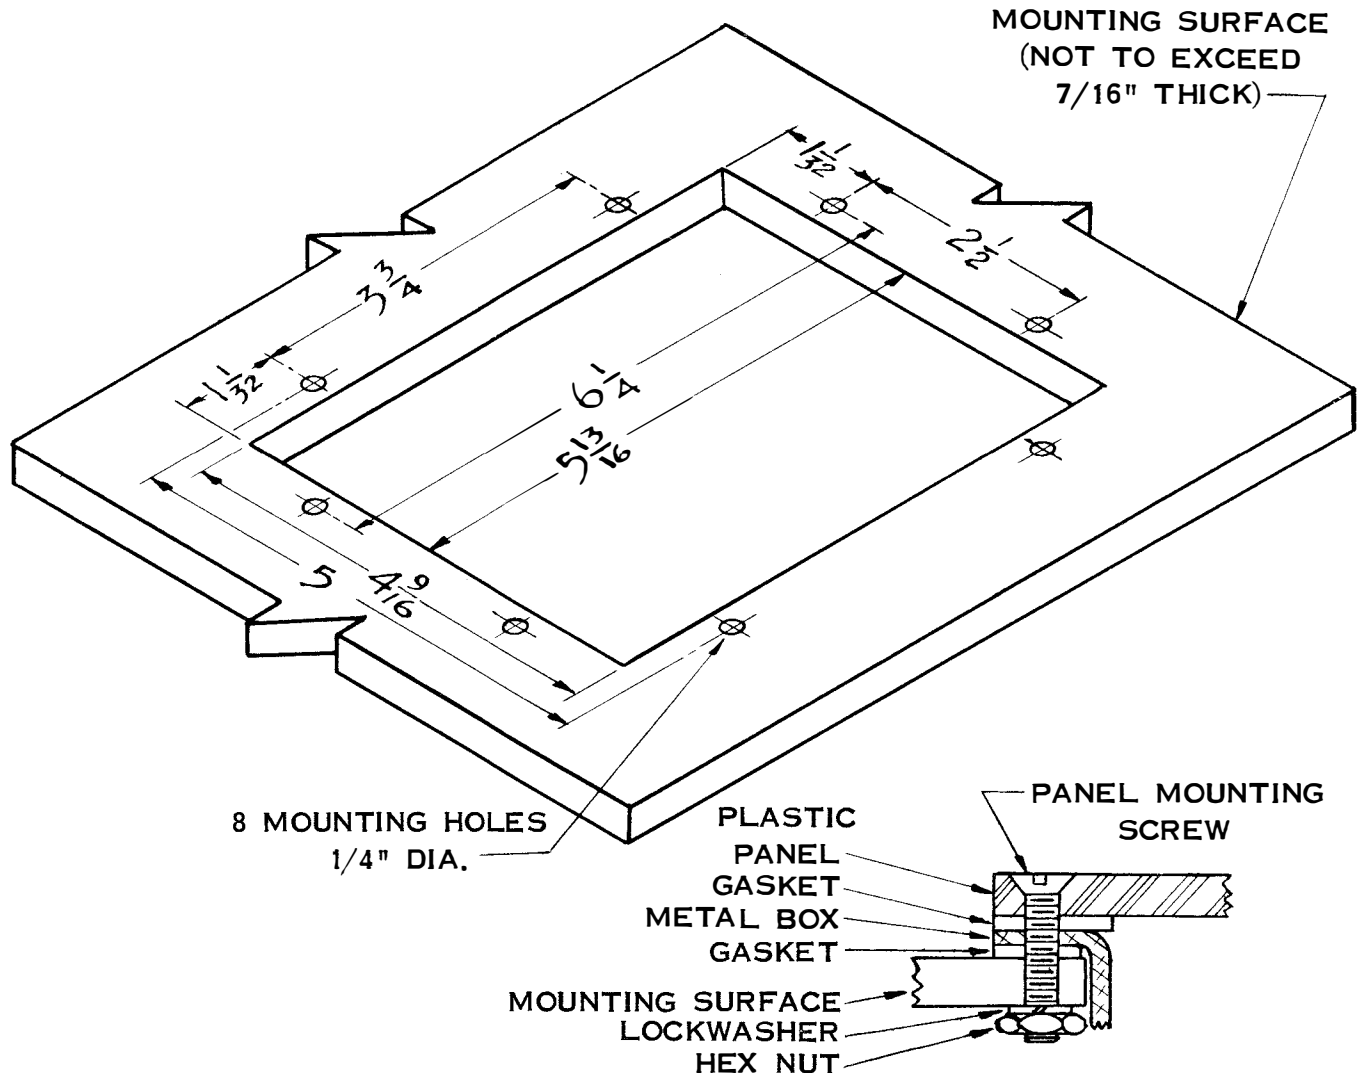

Figure 2-1. Control Panel Telegraph Key SB-315B/U, Mounting Details
a. **MOUNTING HOLES.** - Eight 1/4-inch mounting holes are required for fastening the unit to the mounting surface. Figure 2-1 shows the mounting dimensioning.